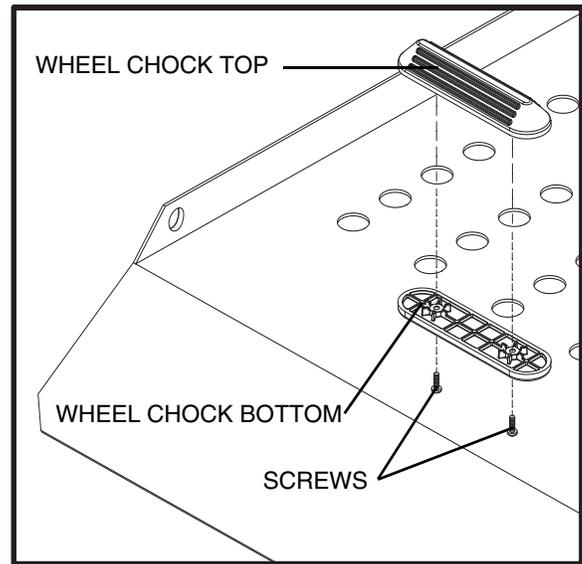

Figure 10. Wheel Chock Installation
7. Secure the wheel chock sections to the platform using the supplied hardware. **See figure 10.**